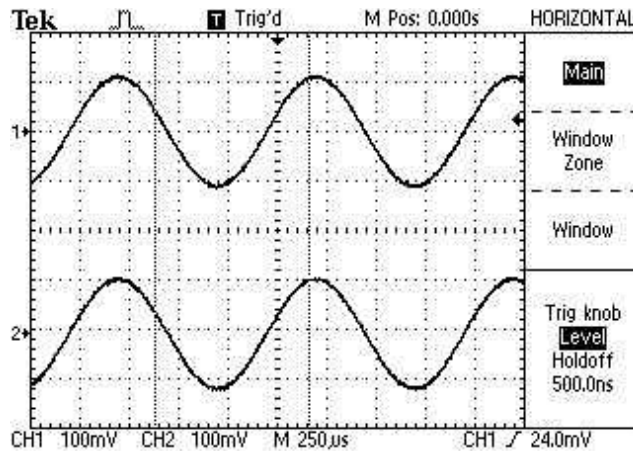

Figure 3
- Using the buttons on the right side of the LCD screen, choose:(see Figure 3)
- Adjust **SEC/DIV** for 250 μ s (see Figure 3)